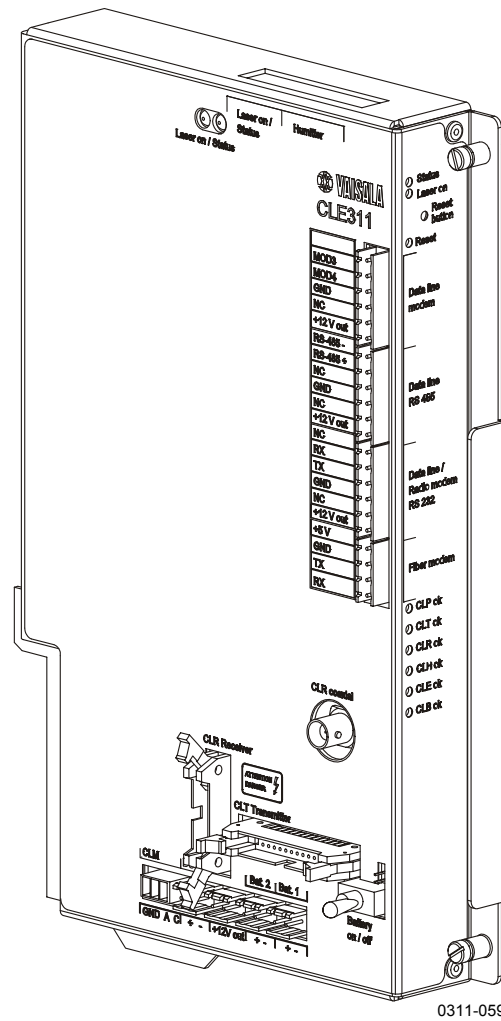

Figure 13 Ceilometer Engine Board CLE311
3. Turn the Main Circuit Breaker F1, the Window Blower Circuit Breaker F2, and the Battery Switch to the **On** position. After the initialization routines, the **Laser on** LED starts blinking at 2-second intervals. Also the six diagnostic LEDs light up. For location of the LEDs and switches, refer to Figure 12 on page 33 and Figure 13 on page 34.